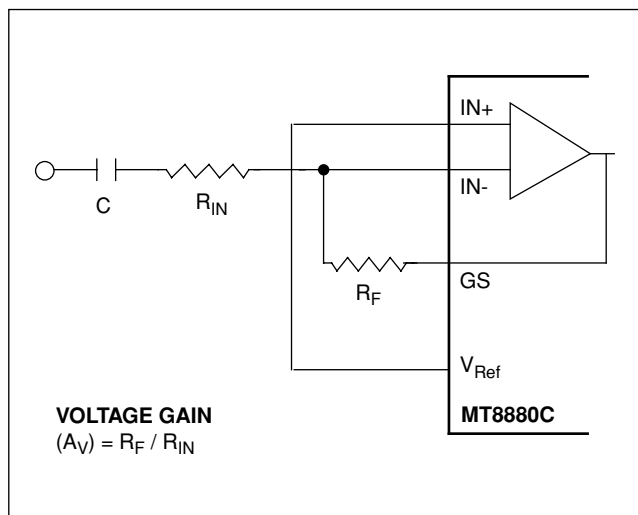

Figure 3 - Single-Ended Input Configuration
The input arrangement of the MT8880C provides a differential-input operational amplifier as well as a bias source ( $V_{Ref}$ ) which is used to bias the inputs at  $V_{DD}/2$ . Provision is made for connection of a feedback resistor to the op-amp output (GS) for adjustment of gain. In a single-ended configuration, the input pins are connected as shown in Figure 3.